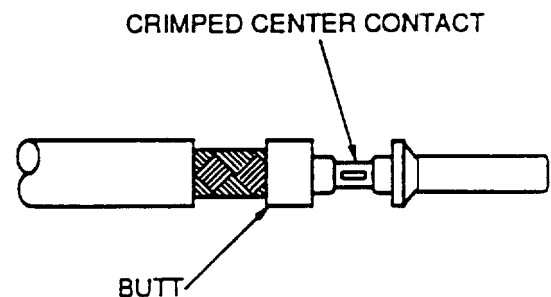

Figure 33. Crimping Center Contact
c. As shown in Figure 33, crimp center contact (through teflon insulator) to center conductor, using crimp tool frame M22520/2-01 and positioner M22520/2-29.
e. Crimp center contact (through teflon insulator) to center conductor using crimp tool frame M22520/2-01 and positioner M22520/2-29 (Figure 33).
c. Crimp center contact (through teflon insulator) to center conductor. using crimp tool frame M22520/2-01 and positioner M22520/2-29 (Figure 33).
e. Crimp center contact (through teflon insulator) to center conductor, using crimp tool frame M22520/2-01 and positioner MS22520/2-29 (Figure 33).